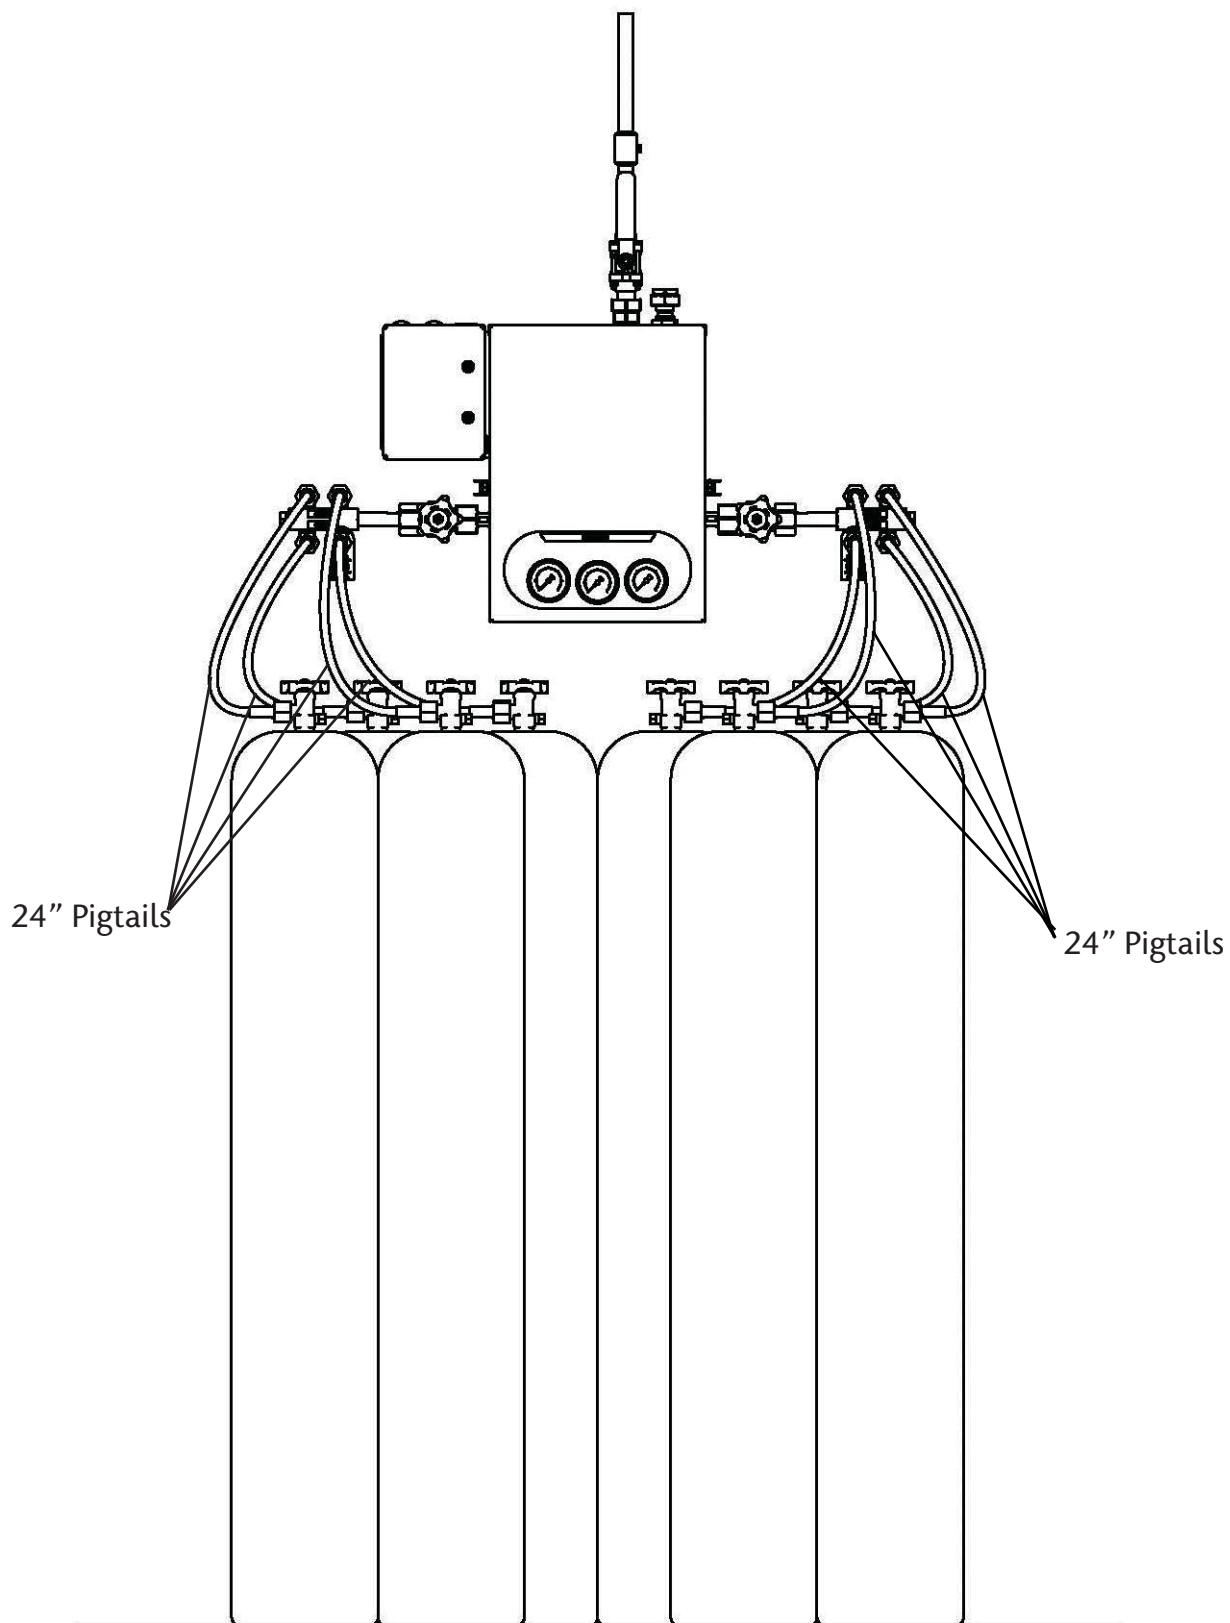

Figure 10
All manifolds other than O₂, He, CO₂O₂, O₂CO₂, HeO₂, O₂He, ISO N₂O, ISO Inst. Air, and ISO Med. Air utilize 24" length flexible stainless-steel braided pigtails. All cylinders on the right bank of the manifold, even those placed directly beneath should be positioned so that the cylinder outlets face right. All cylinders on the left bank of the manifold, even those placed directly beneath should be positioned so that the cylinder outlets face left. Figure 10 illustrates a typical 4 x 4 manifold system utilizing 24" length flexible pigtails.
3. Position gas cylinders as shown in Figures 10 and 11. Secure each cylinder to wall or floor stand with chains or straps.